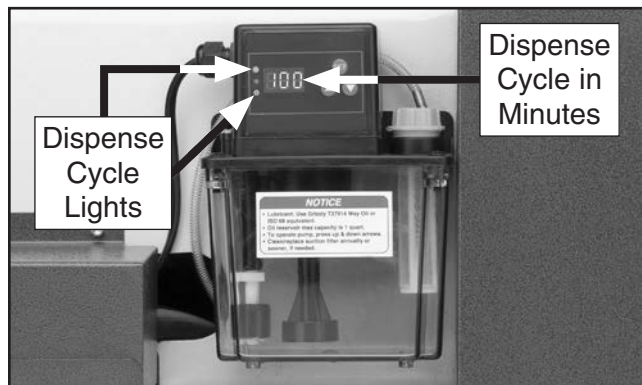

Figure 75. Setting oiler dispense cycle.
5. Verify upper and lower lights illuminate and oil dispense duration (in minutes) is displayed on digital readout (see **Figure 75**). Set desired values using ▲ and ▼ buttons on oiler controls.